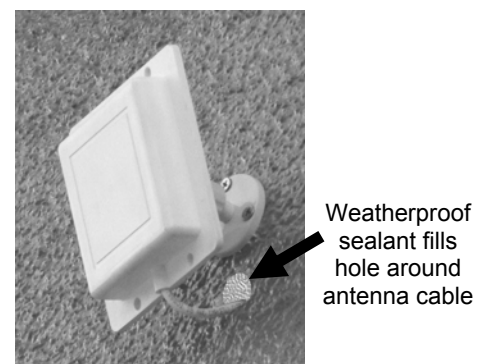

Figure 7. Antenna cable inserted through hole in wall
- Insert the antenna cable connector and cable through the hole in the wall below the bracket, as shown in Figure 7.